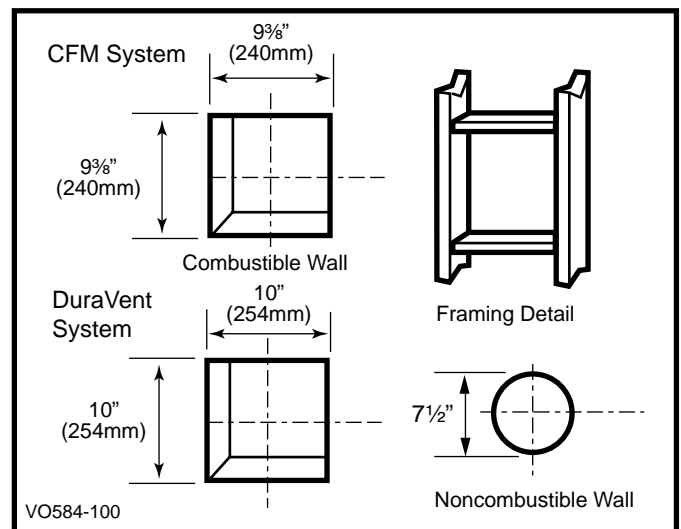
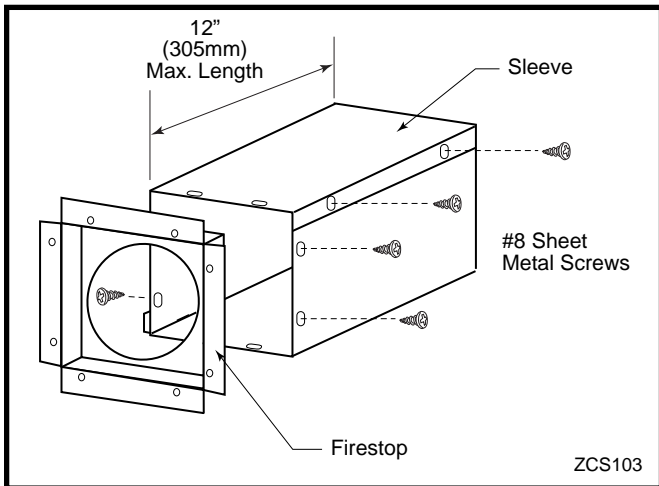

Fig. 28 Locate vent opening.
Fig. 29 Assemble the wall sleeve and firestop.
1. Locate the vent opening on the wall. Refer to Figure 4, Page 6, to determine the opening centerline. It may be necessary to first position the stove and measure to find the hole location. Depending on whether the wall is made of combustible materials, cut the opening to the size shown in Figure 29. Combustible wall openings must be framed as shown in Figure 28.
2. Measure the wall thickness and cut the wall sleeve sections to proper length (MAXIMUM 12"). Assemble the sleeve with the #8 sheet metal screws supplied. Attach the firestop plate to the sleeve end with the holes. (Fig. 29) **NOTE:** The wall sleeve is required in combustible walls only.
3. Install the Wall Firestop/Sleeve assembly into the wall cutout and fasten the firestop to the wall cutout framing members. (Fig. 29)